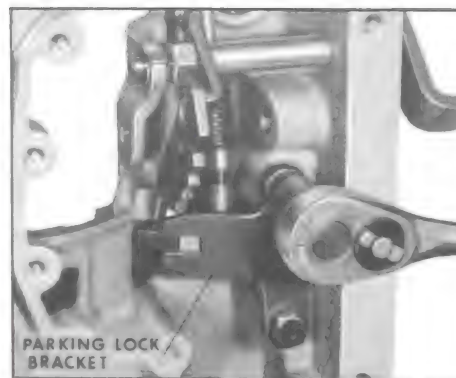

Figure 5-293
9. Install parking bracket to transmission case. Torque bolts to 8-12 ft. lbs. torque. See Figure 5-293.